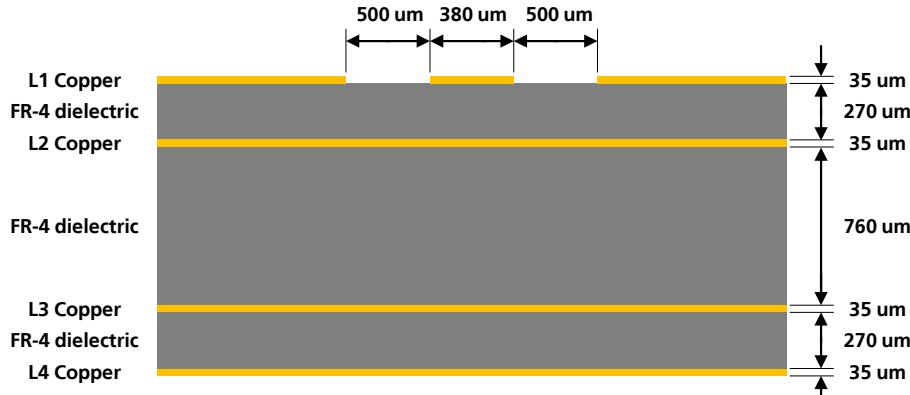
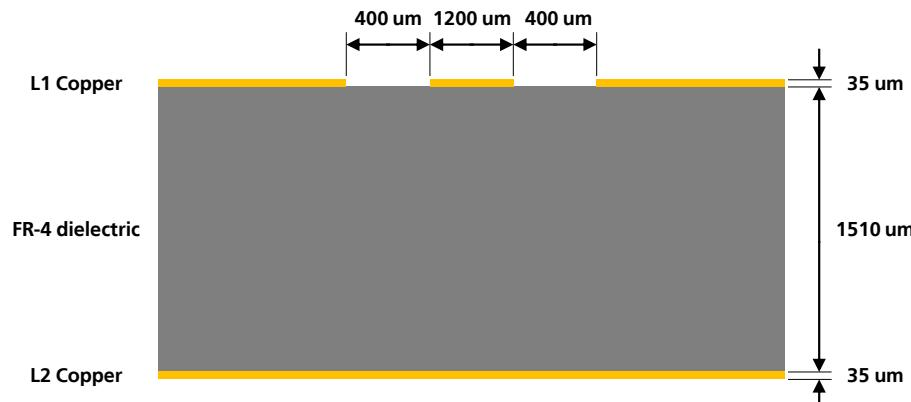

Figure 49: Example of  $50\ \Omega$  coplanar waveguide transmission line design for the described 4-layer board layup
Figure 50: Example of  $50\ \Omega$  coplanar waveguide transmission line design for the described 2-layer board layup
Figure 49 and Figure 50 provide two examples of proper  $50\ \Omega$  coplanar waveguide designs. The first transmission line can be implemented in case of 4-layer PCB stack-up herein described, the second transmission line can be implemented in case of 2-layer PCB stack-up herein described.
- the thickness of the transmission line itself (e.g. 35 μm in the example of Figure 49 and Figure 50)
- the thickness of the dielectric material between the top layer (where the transmission line is routed) and the inner closer layer implementing the ground plane (e.g. 270 μm in Figure 49, 1510 μm in Figure 50)
- the dielectric constant of the dielectric material (e.g. dielectric constant of the FR-4 dielectric material in Figure 49 and Figure 50)
- the gap from the transmission line to the adjacent ground plane on the same layer of the transmission line (e.g. 500 μm in Figure 49, 400 μm in Figure 50)